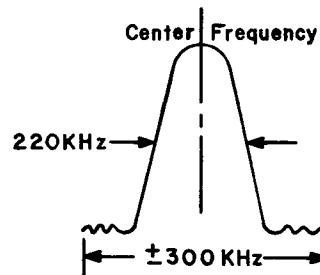

Figure 4
3. Tune the FM Generator, modulated  $\pm 300\text{KHz}$  @ approximately 20uV output level, to the receiver frequency. Connect an RF Detector Probe to Test Point 1, TP-1 (Pin 1 of IC201; HA1137) and center the FM IF response on the oscilloscope. The FM IF bandpass characteristics are now being displayed. Adjust the core of the converter FM IF transformer T101 for maximum gain and symmetry, as illustrated in Figure 4.